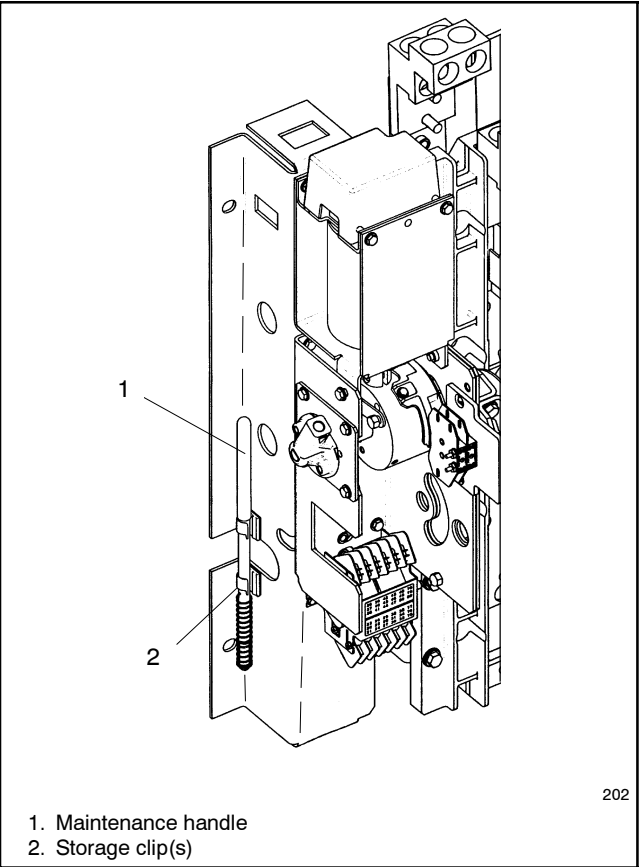

Figure 2-6 Manual Handle Storage (typical)
- 1. Remove the maintenance handle from the clip(s) on the left side of the transfer switch frame. See Figure 2-6.